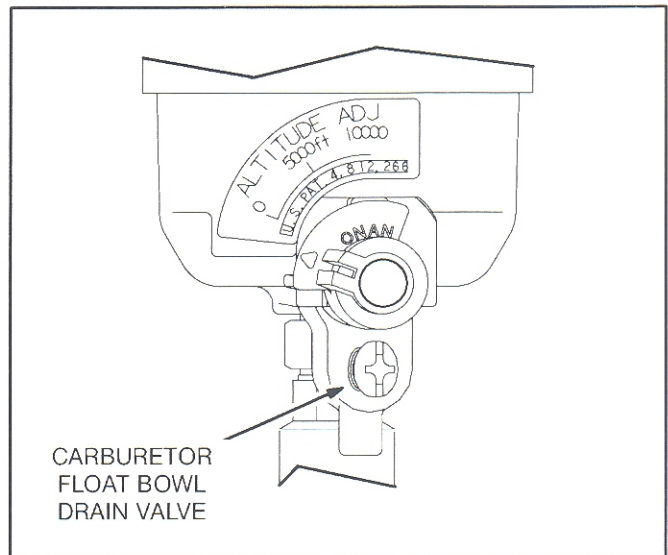

FIGURE 9. DRAINING CARBURETOR FLOAT BOWL
4. **Gasoline Models with Carburetor** – Shut off the fuel supply valve (if so equipped) and drain the carburetor float bowl (Figure 9) into a container. Dispose of the fuel in accordance with local environmental regulations. Draining the float bowl prevents deposits of gum from clogging the tiny passages in the carburetor as the gasoline in the bowl evaporates during storage.